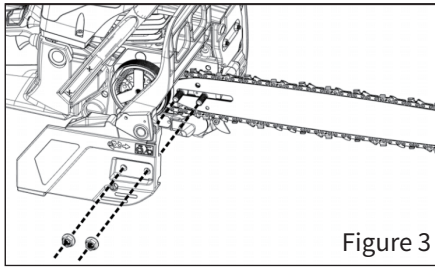

Figure 3
- Reinstall the cover and screw it with the two screws (see Figure 3).